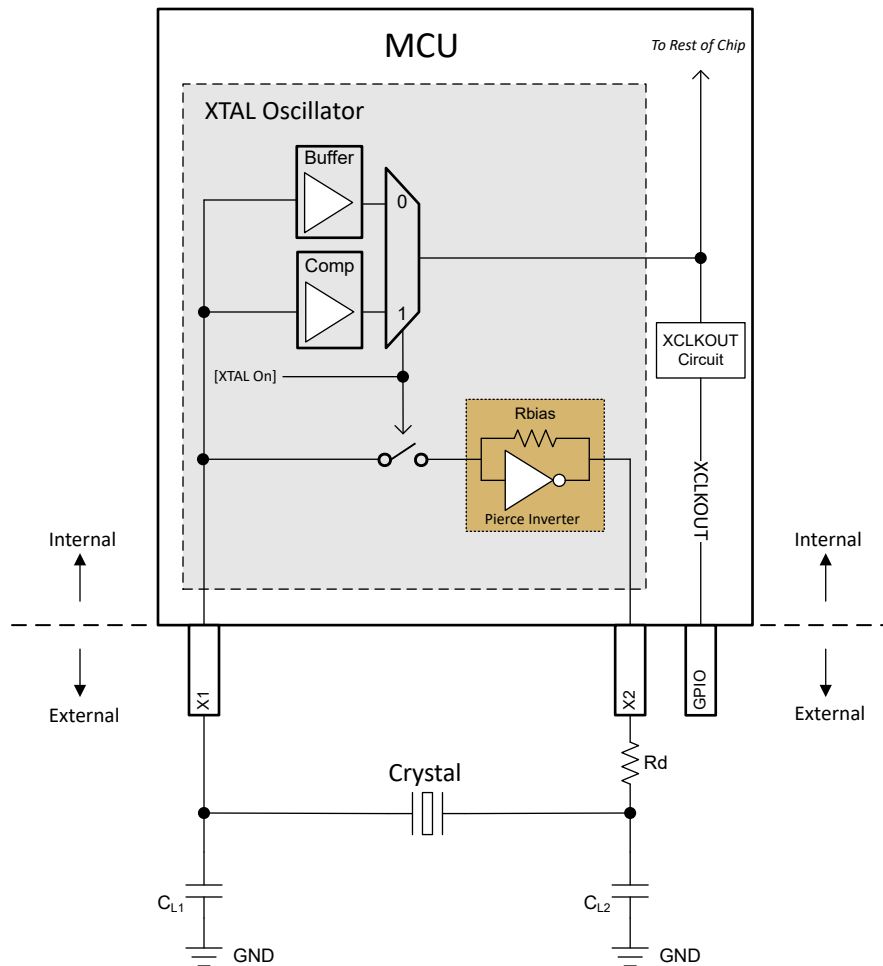

Figure 6-13. Electrical Oscillator Block Diagram
The electrical oscillator in this device is a Pierce oscillator. It is a positive feedback inverter circuit that requires a tuning circuit in order to oscillate. When this oscillator is paired with a compatible crystal, a tank circuit is formed. This tank circuit oscillates at the fundamental frequency of the crystal. On this device, the oscillator is designed to operate in parallel resonance mode due to the shunt capacitor (C0) and required load capacitors (CL). Figure 6-13 illustrates the components of the electrical oscillator and the tank circuit.
From Figure 6-13, CL1 and CL2 are in series; so, to find the equivalent total capacitance seen by the crystal, the capacitance series formula has to be applied which simply evaluates to $[CL1]/2$ if $CL1 = CL2$.